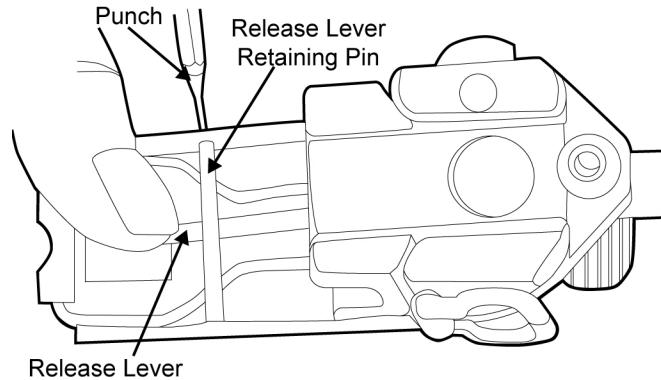

Figure 37. Depressing the Release Lever and Removing the Release Lever Retaining Pin.
a. Depress the release lever to relieve spring tension on the release lever retaining pin. Using a punch, push the release lever retaining pin out from one side of the mounting plate. Refer to Figure 37.